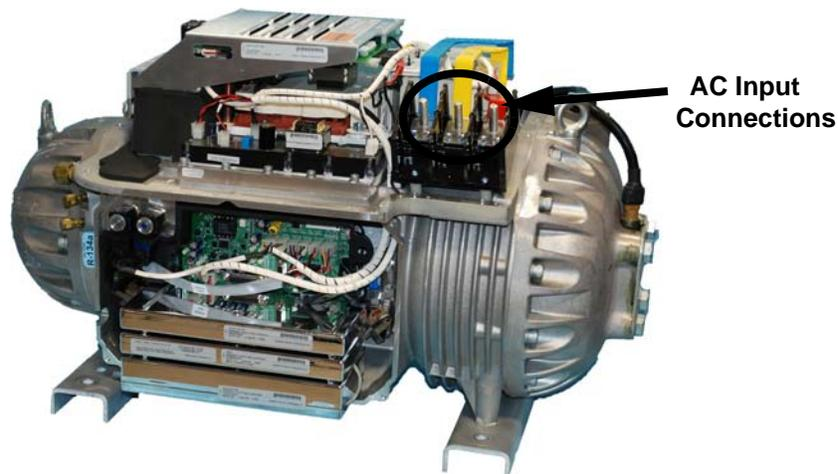

Figure 23 Compressor AC Input Terminals
7. Attach the three main power cables to the compressor terminals (see Figure 23). Tighten the terminal nuts to 21.7 Nm (192 in-lbs).